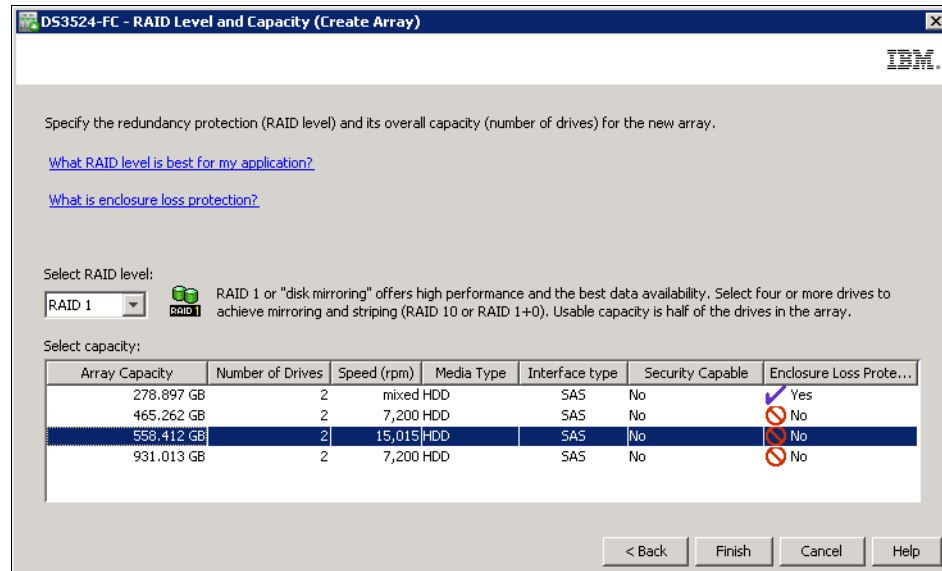

Figure 9-7 RAID level and capacity
- Select the desired RAID level. The window shown in Figure 9-7 on page 225 now displays the capacity options depending on the unconfigured drives available in your subsystem. If you have different disk sizes, you have more than one option for the same number of disks. See Chapter 3, “IBM System Storage DS3500 Storage System
- Select the line with required capacity in the list and click **Finish**. In our example (Figure 9-7), we create a RAID1 array with two 15kRPM SAS drives.